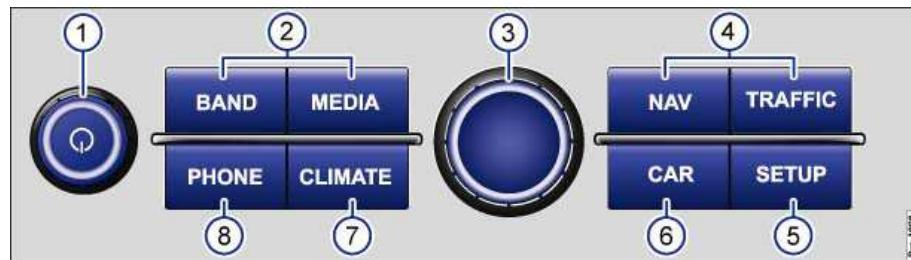

Fig. 131 Overview of rotary/push knobs and the Infotainment buttons.
To switch the unit on or off manually, briefly press the  rotary/push knob ⇒ fig. 131 \(1\).
Increase volume.	Turn the volume control  ⇒ fig. 131 (1) clockwise or press the button  on the multi-function steering wheel ⇒ page 5 ⇒ Error! Bookmark not defined..